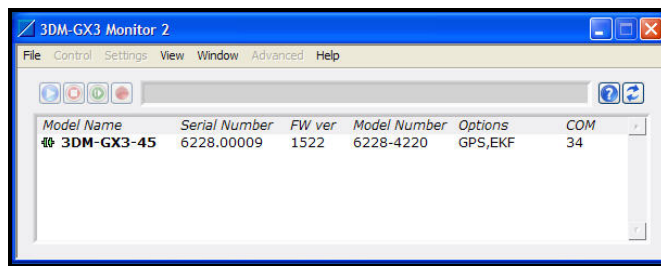

Figure 1. Main window
- The software will automatically search for the 3DM-GX3® -45 and display it in the Device pane. The serial number, firmware version, model number, options and comm port will be displayed as shown in Figure 1.